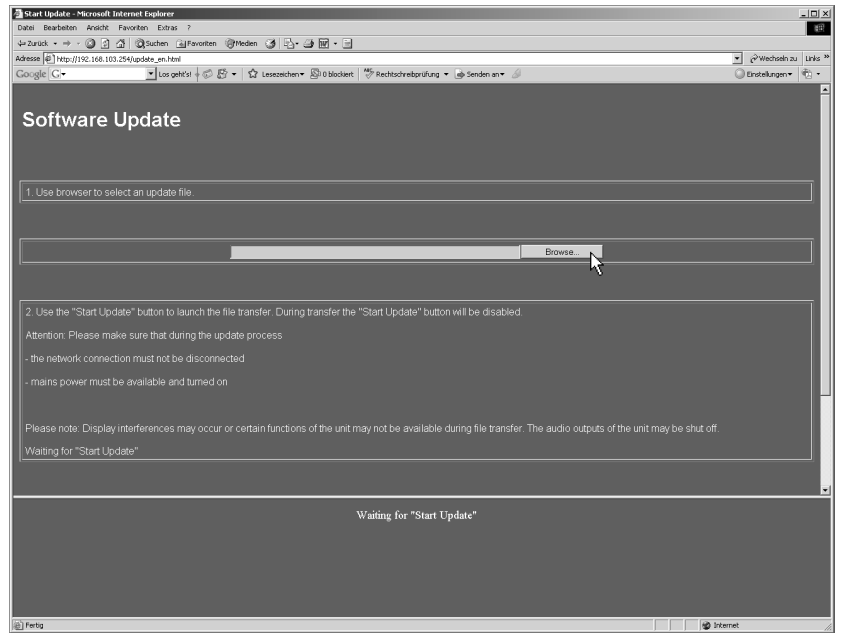

Fig. 8-5: Display of the Software Update menu page (Browse ...)
3. Select **Browse ...** (see Fig. 8-5).
13. Use the displayed dialog (see Fig. 8-5) to select (Browse ...) the **fourth** of the four update files.